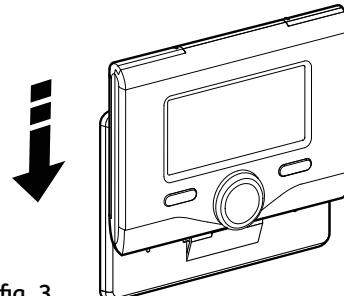

fig. 3
- position the system interface on the base, pushing it gently downwards (fig. 3).